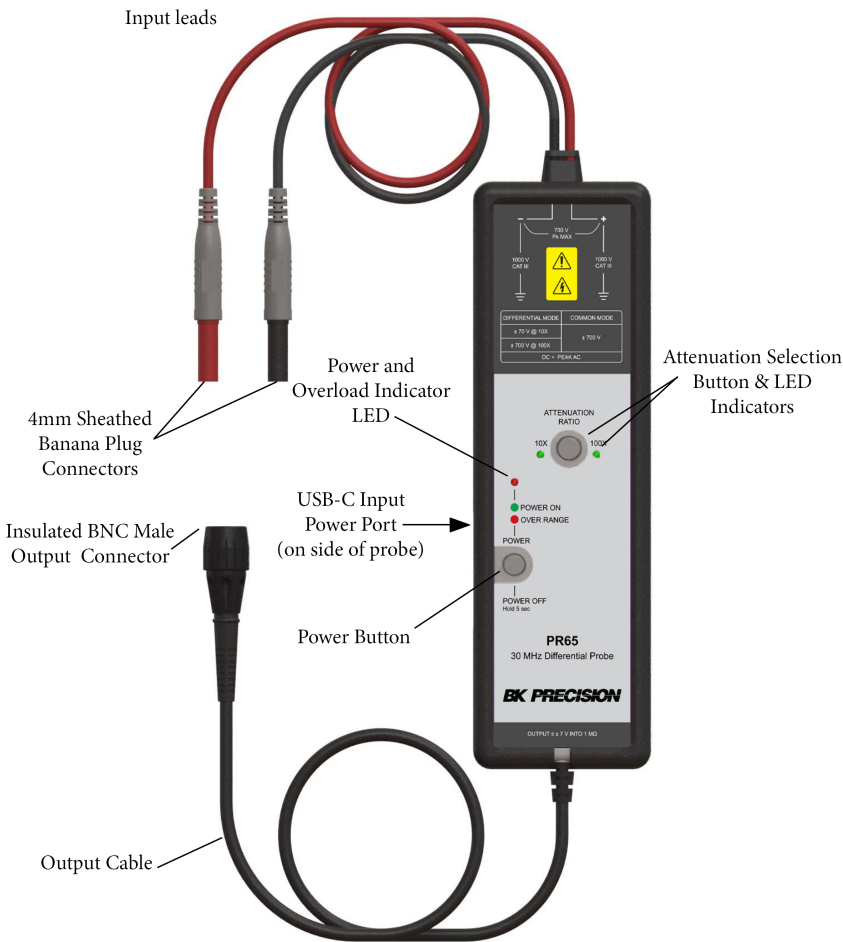

Figure 3.1 Probe and Supplies Accessories
Both probes are compatible with any oscilloscope with a 1 MΩ BNC female input and feature up to 30 MHz of bandwidth. The probes can be powered by any oscilloscope USB port, internal batteries (4 AA batteries included with the probe), or included mains power adapter. **Figure 3.1** shows some key features of the PR65 Series probe.
Step 2. OR, connect the USB power cord to the probe (see figure 3.1 for the location of the input jack on the probe) and a USB port on the oscilloscope or to the Power Adapter plugged into a mains circuit.